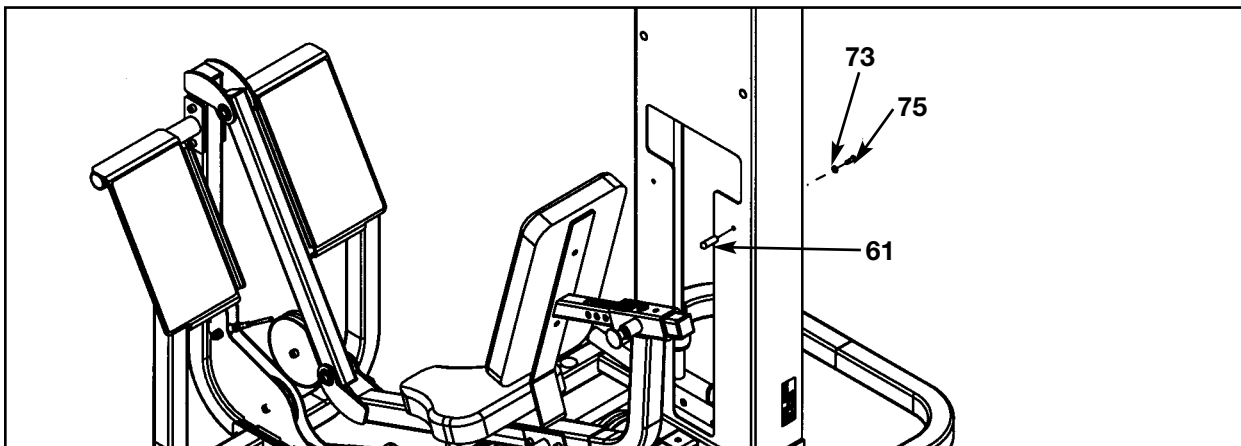

Figure 14
6. Install weight stack (see steps 6A - 6M, Figures 14 and 15).
B. Install the half weight peg as shown in Figure 14.